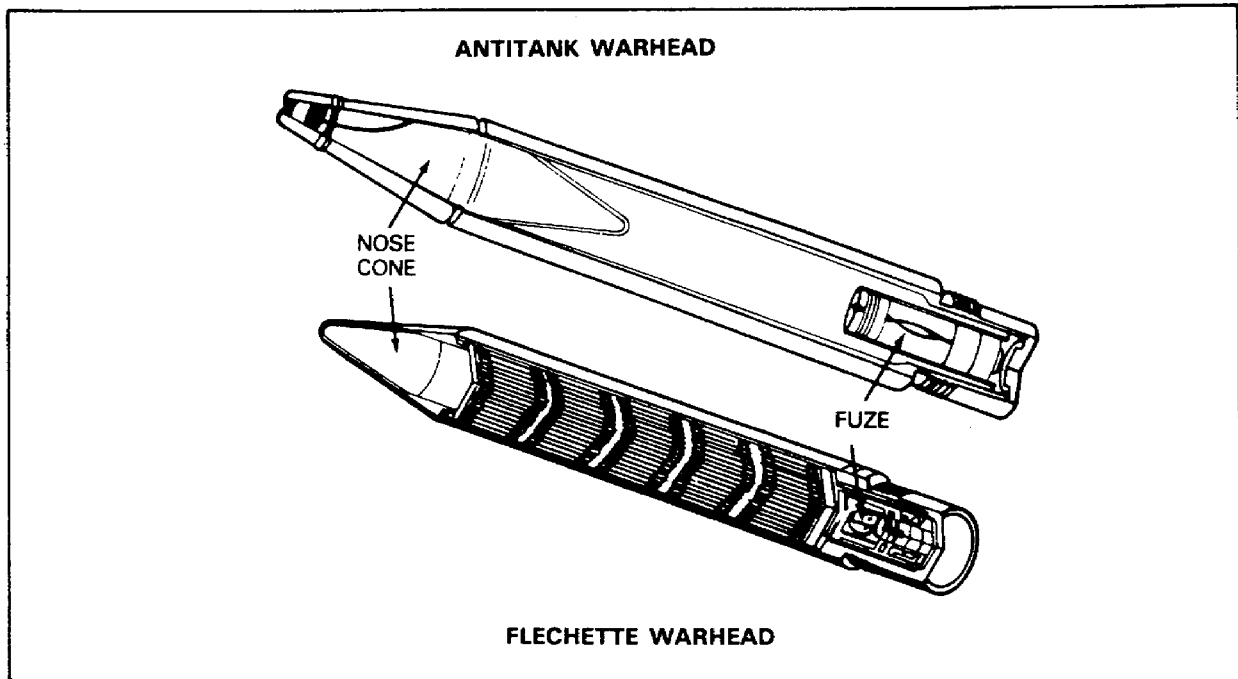

Figure 45. Two Types of 2.75-Inch Aircraft Rocket Warheads.
Fuzes. The 2.75-inch aircraft rocket uses a variety of fuzes, including: point-detonating (PD) fuzes; proximity (PROX) or variable time (VT) fuzes; point-initiating, base-detonating (PIBD) fuzes; and electronic time (ET) fuzes. The electronic time fuze has an umbilical connector that connects the fuze to the aircraft electrically and enables the pilot to select the time that the fuze will function from a control panel in the cockpit. Most 2.75-inch aircraft rocket fuzes are nose mounted, depending on the type of warhead used; but some warheads have fuzes installed in the base. The antipersonnel flechette warhead, for example, uses a fuze installed in the base. This makes the fuze an integral part of the warhead. Note how the fuzes are installed in the warheads in Figure 45.